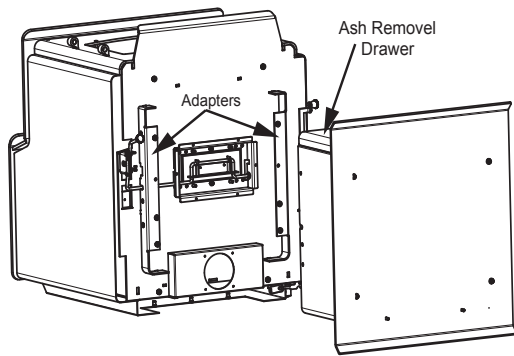

Figure 20.1
2. Remove the 2 bricks in the front most part of the firebox (**Figure 20.1**).
2. Remove the 2 bricks in the front most part of the firebox (**Figure 20.1 on page 20**).